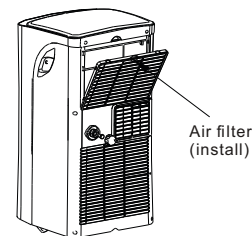

Fig.32
3. Replace filter according to arrow direction in Fig 32.